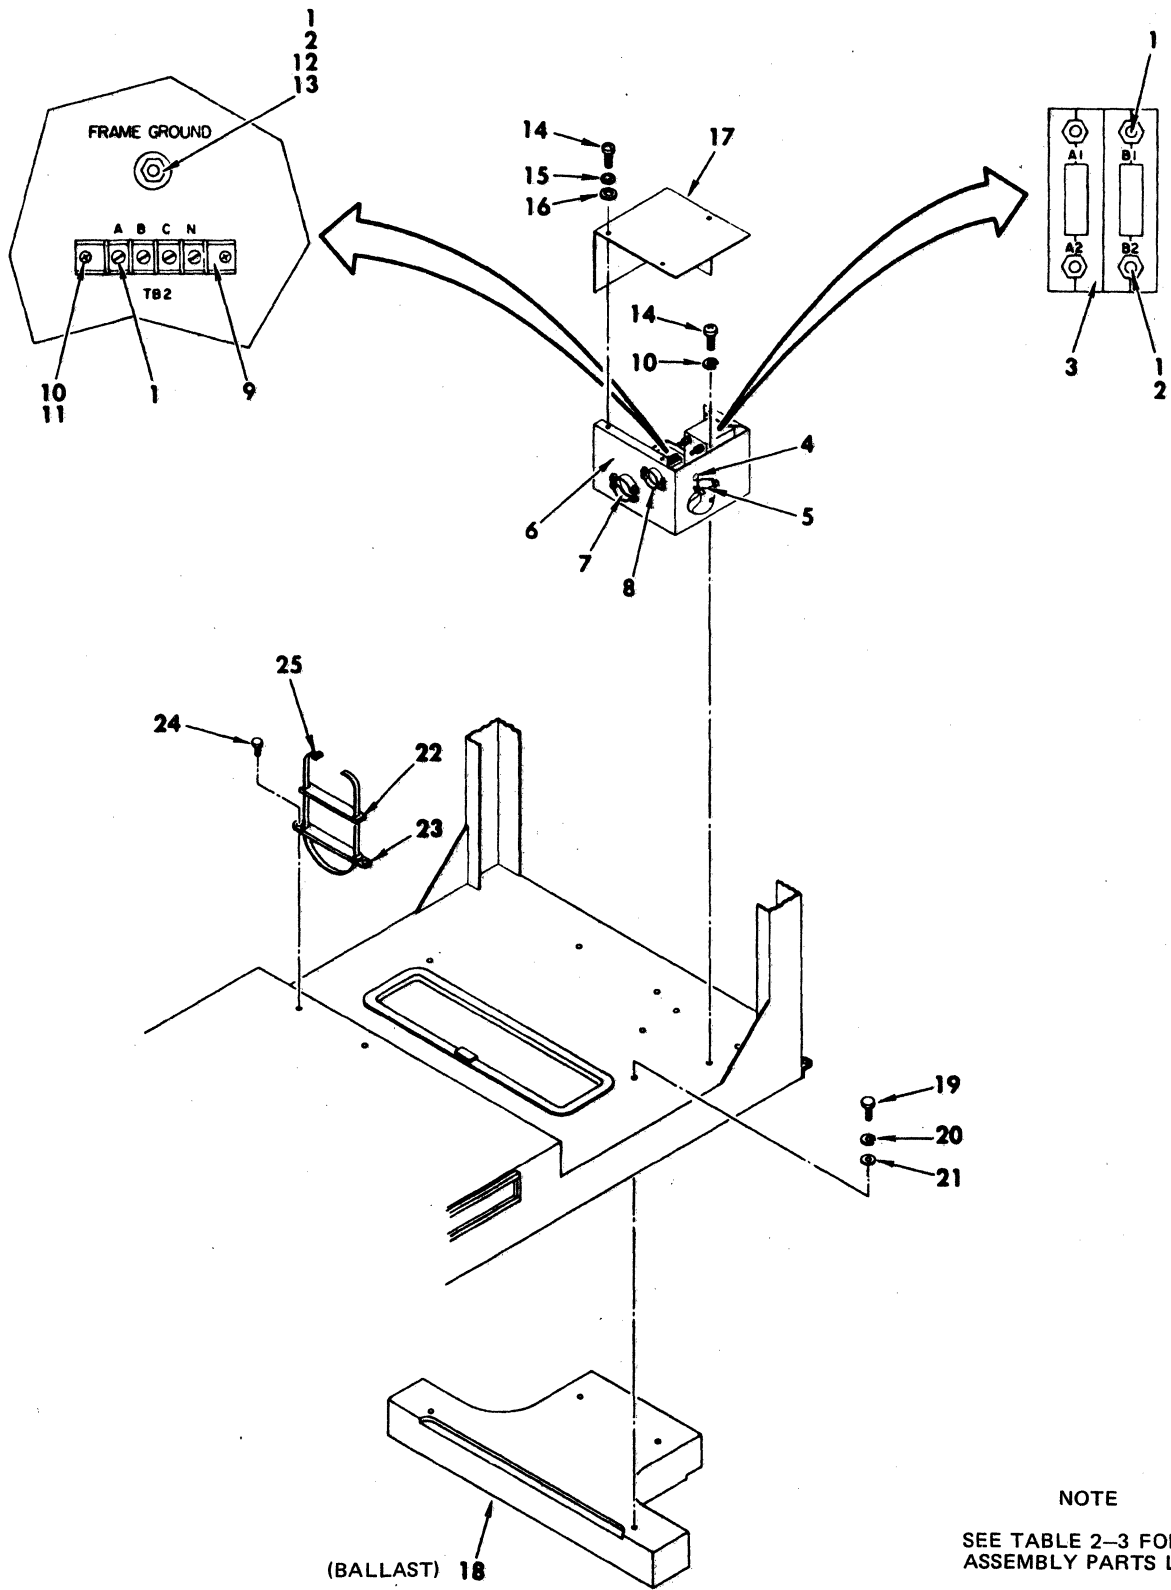

Figure 2-7 Location of Ballast and Circuit Breaker
9. As a safety precaution, ensure that a ballast (counterweight) has been installed at rear of cabinet, attached to underside of cabinet base (see Figure 2-7).